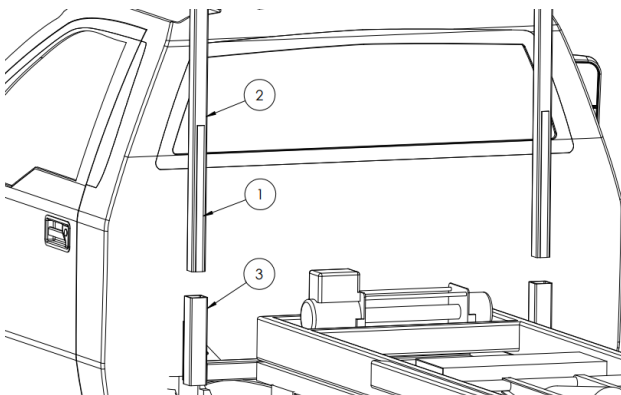

Figure 2.2
Once frame height is decided, insert legs (2) into base tube (3) with shim plate (1) facing the rear. (Figure 2.2)